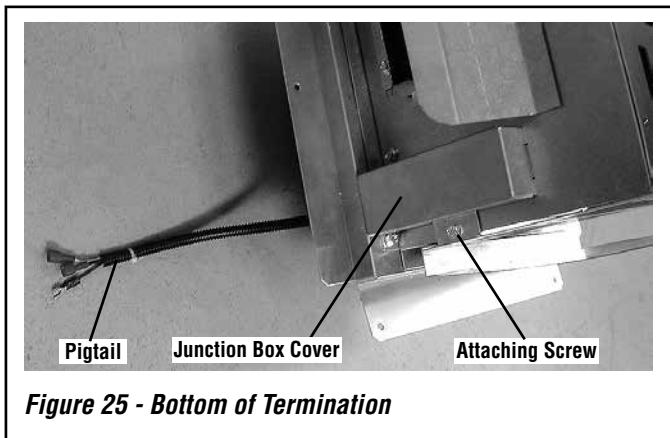

Figure 25 - Bottom of Termination
- Either use the integrated junction box, or position an electrical junction box (not provided) within reach of the termination wiring pigtail (see *Figure 25 on Page 22*). Route the pigtail to the junction box as the termination is installed.
- Remove the junction box cover from the termination by removing the attaching screw (see **Figure 25**).